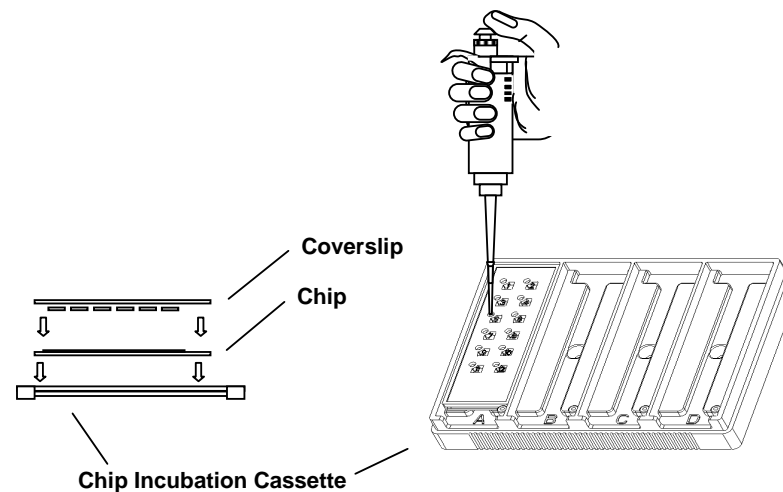

Fig. 12. Schematic diagram of manipulation.
- 4. Reaction reagent addition:** Take up the reagent solution using an appropriate pipette. Put the pipette tip vertically into the solution port at the corner of each block of SmartCover™. When the tip just touches the slide surface, slowly release the solution to fill the space between the protruding features and the slide surface (Fig. 12). Take care to not introduce bubbles. The recommended reagent volumes are listed in Table I.